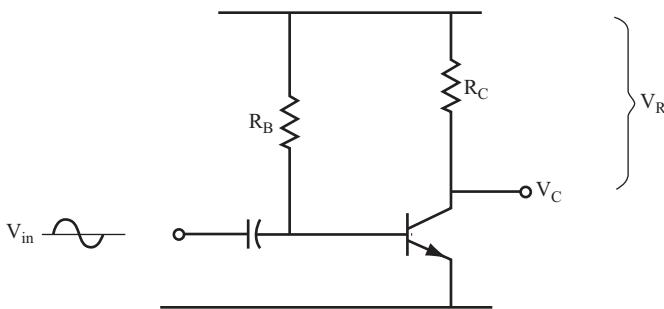

FIGURE 8.3
- 8** If you apply a small AC signal to the base of the transistor after it has been biased, the small voltage variations of the AC signal (shown in Figure 8.3 as a sine wave) cause small variations in the base current.